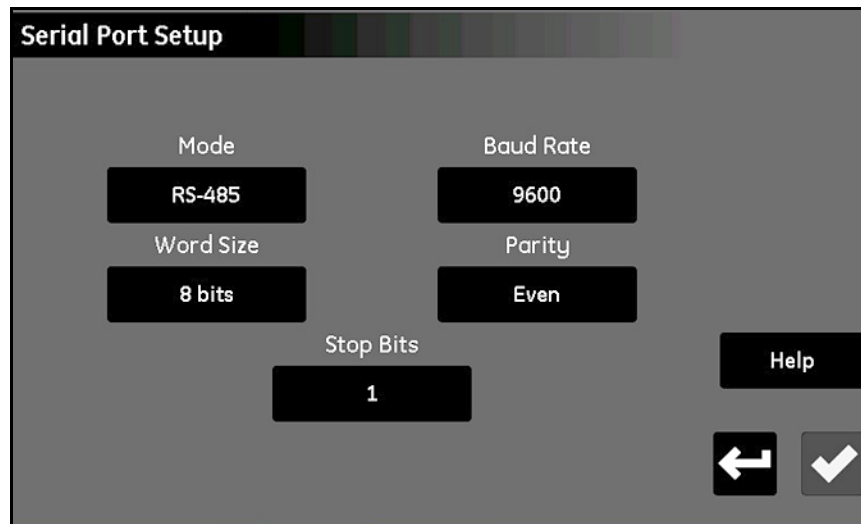

Figure 67: Serial Port Setup Screen
1. From the *Configuration Menu* screen (see *Figure 52 on page 55*), tap the **Serial Port** button to open a *Serial Port Setup* screen similar to *Figure 67* below.